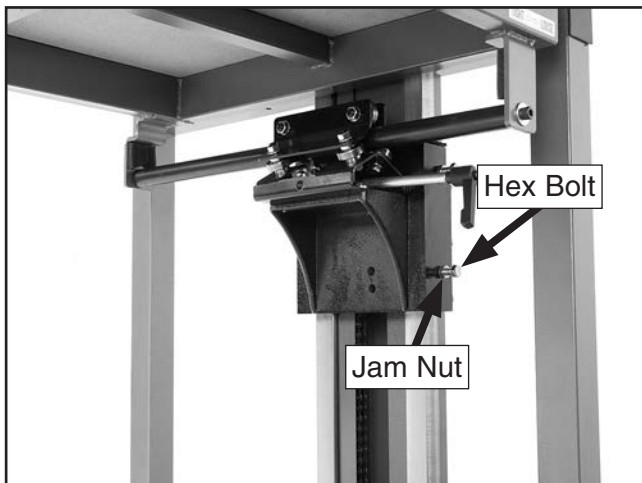

Figure 63. Wear pin adjustment.
2. Loosen the jam nut shown in (Figure 63).